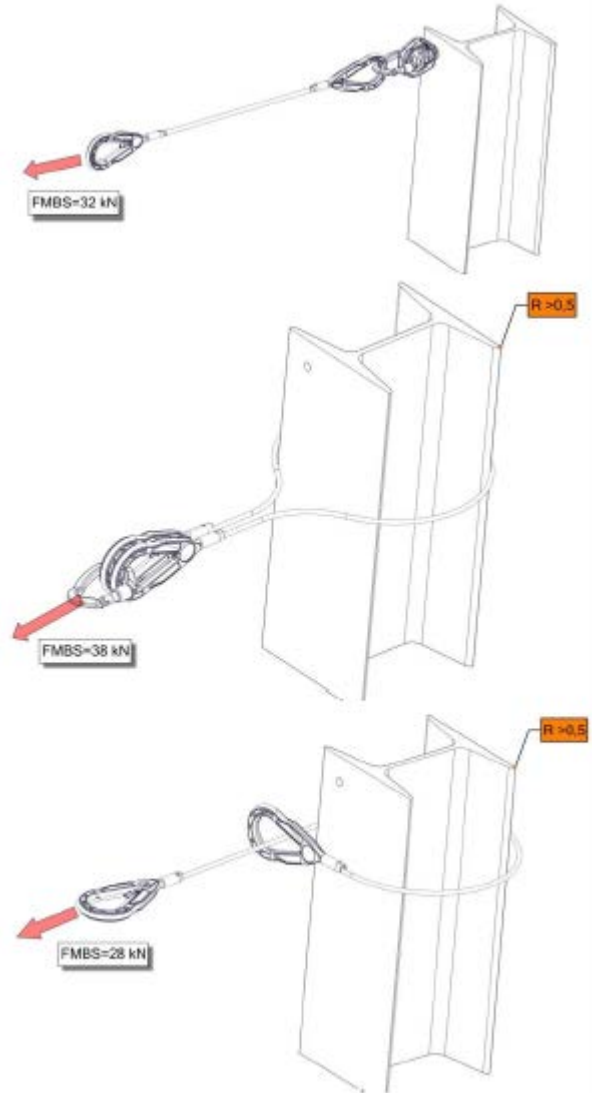

Figure 1. Acceptable methods of installation of device
According to EN 795:2012 Type B static strength of this anchor point is min. 14kN towards direction of force, and in configurations as shown in Figure 1, the device can be used by 3 users at the same time.
- Example installations are shown in Figure 1
Three acceptable methods of installation are given in Figure 1